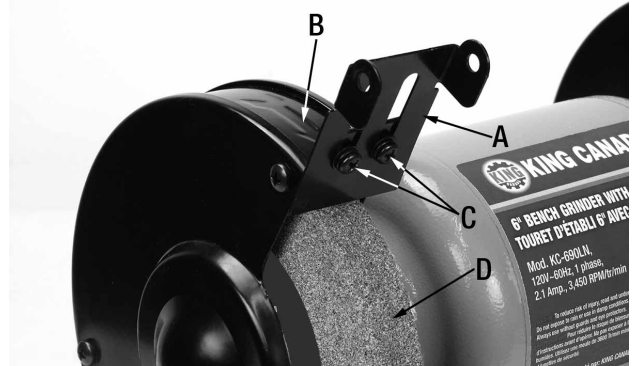

FIGURE 3
1. Install a spark deflector (A) Fig.3 to the front surface of the wheel guard (B) using two pan head screws, spring washer and washer (C). Repeat for the other side.
2. Adjust both spark deflectors (A) Fig.3 until they are 1/16" away from the grinding wheel (D). Firmly tighten the pan head screws. As the grinding wheels are worn down, re-adjust the spark deflectors to maintain the 1/16" distance from the wheel.